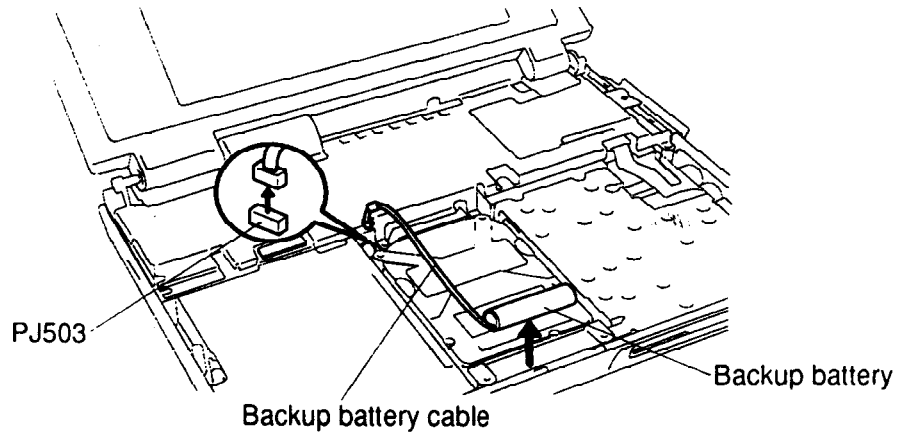

Figure 4-10 Removing the Backup Battery
5. Remove the tape over the **backup battery cable** and lift out the **backup battery** (Figure 4-10).
8. Disconnect the **backup battery cable** from **PJ503** (Figure 4-10).
2. Connect the **backup battery cable** to **PJ503** (Figure 4-10).
4. Route the **backup battery cable** in the space between the HDD and the battery cable insulator, then place the **backup battery** in the backup battery slot (Figure 4-10).